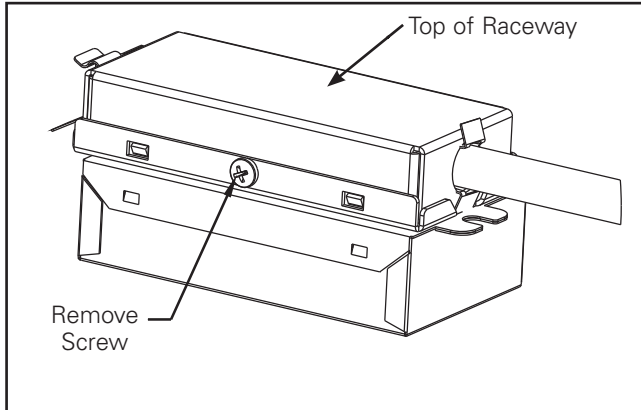

Figure 12
1. Remove screw from raceway (see figure 12).